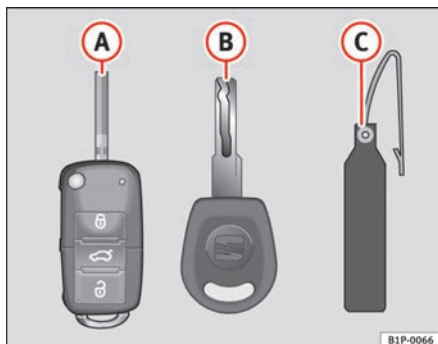

Fig. 61 Set of keys
- one remote control key ⇒ fig. 61 **A** with folding key bit,
Duplicate keys are only issued with the key number on the key tab ⇒ fig. 61 **B**. Therefore: